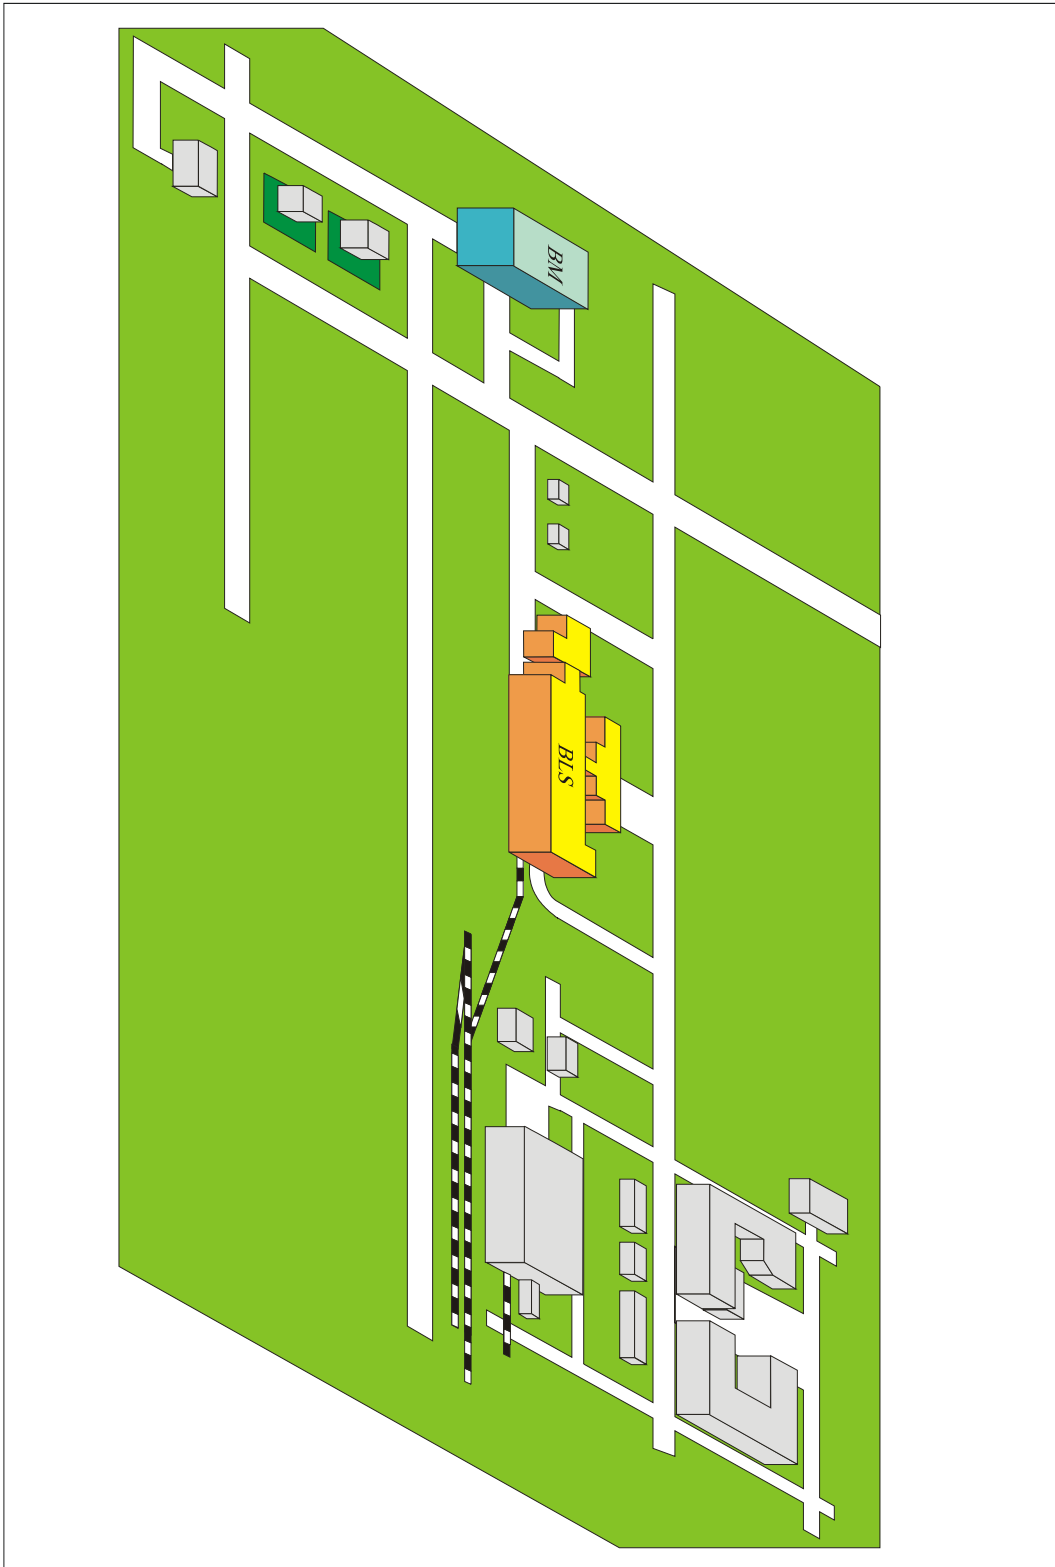

Figure A7-1 JSI/C North Technical Center
The North Technical Center includes LV&SC Processing Building (BLS), Solid Rocket Motor (SRM) Checkout and Processing Building (BM) etc. The LV and the SC will be processed, tested, checked, assembled and stored in North Technical Center. Refer to **Figure A7-1**.